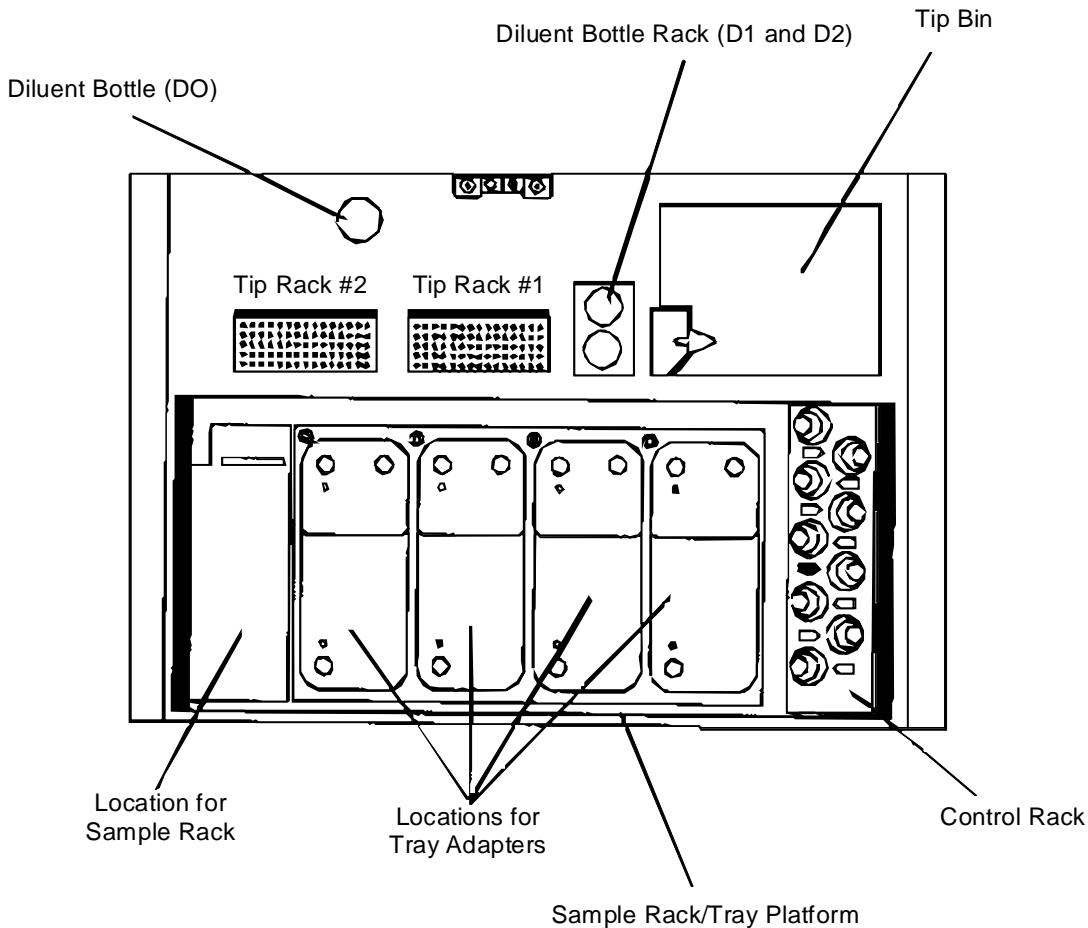

Figure 5-12. Diluent Bottle D1 and D2
- 3. Alignment Tool moves to Diluent Bottle Rack position D1. Refer to Figure 5-12.
- 3. Alignment tool moves to Diluent Bottle Rack position D2. Refer to Figure 5-12.